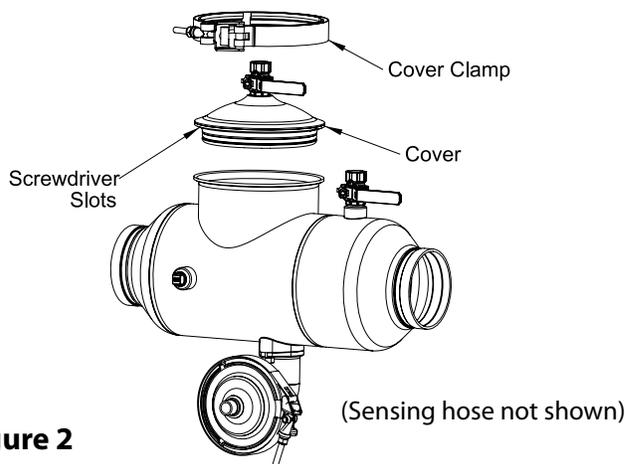

Figure 2
1. Remove the cover clamp by backing off the reusable locknut until the latch can be disengaged from the T-bolt. Pull the clamp apart and slide away from the valve. (See Figure 2)